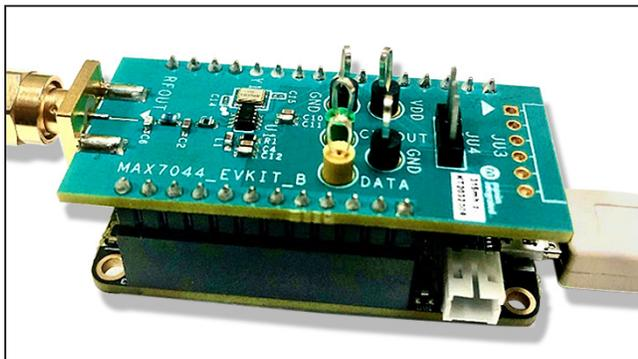

Figure 3. MAX7044 EV kit Orientation to the FTHR Board
- 2) Connect the EV kit to the FTHR board, be sure the USB connector is oriented on the opposite side of the SMA connector as shown in Figure 3.
The MAX7044 EV kit Controller GUI software is designed to control the MAX32630FTHR board, as shown in Figure 3. The software utilizes USB controls to program the FTHR board. The FTHR board is capable of providing power and input data to the EV kit.